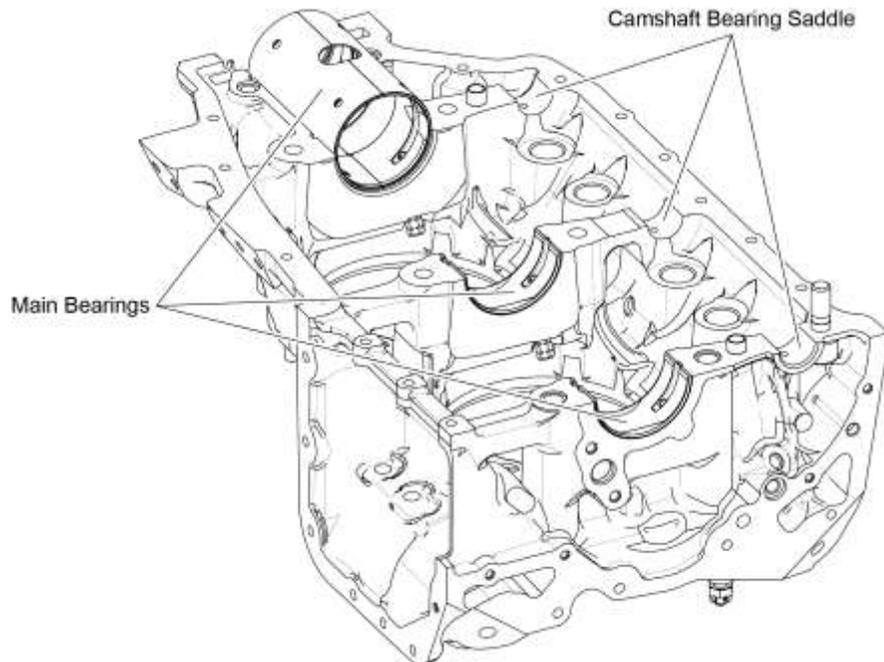
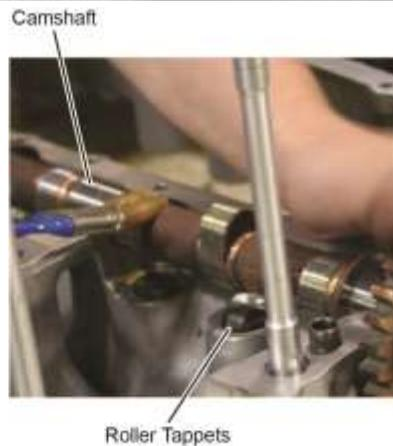

Figure 74
Figure 77
- (1) Before installation, apply lubrication to the roller tappets per the latest revision of Service Instruction Nos. SI-1011 and SI-1059.
- (2) Install four serviceable roller tappets in each crankcase half during assembly.
- (3) Lubricate the camshaft lobes and the faces of the roller tappets (Figure 77) per the latest revision of Service Instruction No. SI-1059.
- (4) Apply engine oil mixture (15% pre-lubricant (STP or equivalent) and 85% SAE No. 50 mineral base aviation grade lubricating oil) to the camshaft bearing saddles and main bearings on each crankcase half (Figures 74 and 78) and the camshaft lobes (Figure 77).